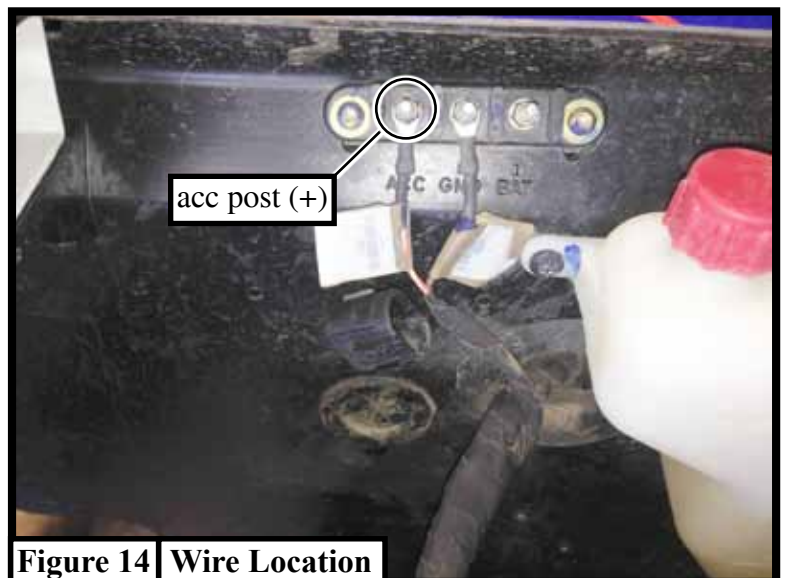

Figure 14 Wire Location
4. Wire the red ignition wires from controllers to the acc post (+) as shown in Figure 14.